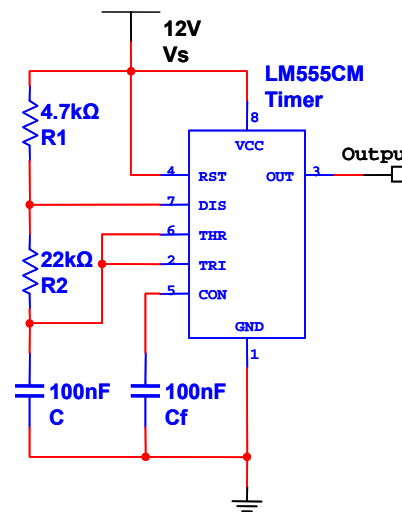

Figure 5-12 – Astable 555 configuration
The 555 datasheet and Application Note AN170 are the best sources of information on the various circuits. A common astable configuration is shown in Figure 5-12. The timing capacitor C is charged through two resistors, R_1 and R_2 . These components control the duty cycle of the output (see data sheet for formulae). Here we have chosen values to give an oscillation frequency in the 200-400Hz range using a 0.1 μ F capacitor. Note the other capacitor (C_f , connected to the control pin) is just a termination that is recommended by the manufacturer when the pin is not being used (see AN170).
- Build the circuit in Figure 5-12. Observe and record the output waveform. Is the frequency and duty cycle consistent with predictions from the formulae in the datasheet?